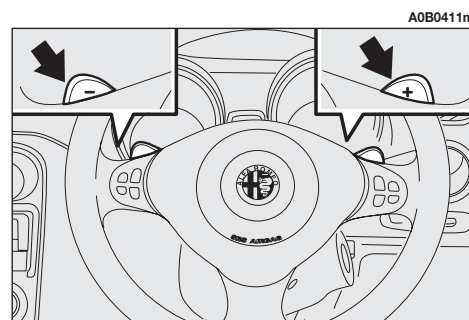

fig. 16
**Fig. 16** shows the steering wheel fitted with two buttons on the spokes for shifting the gear engaged up/down.